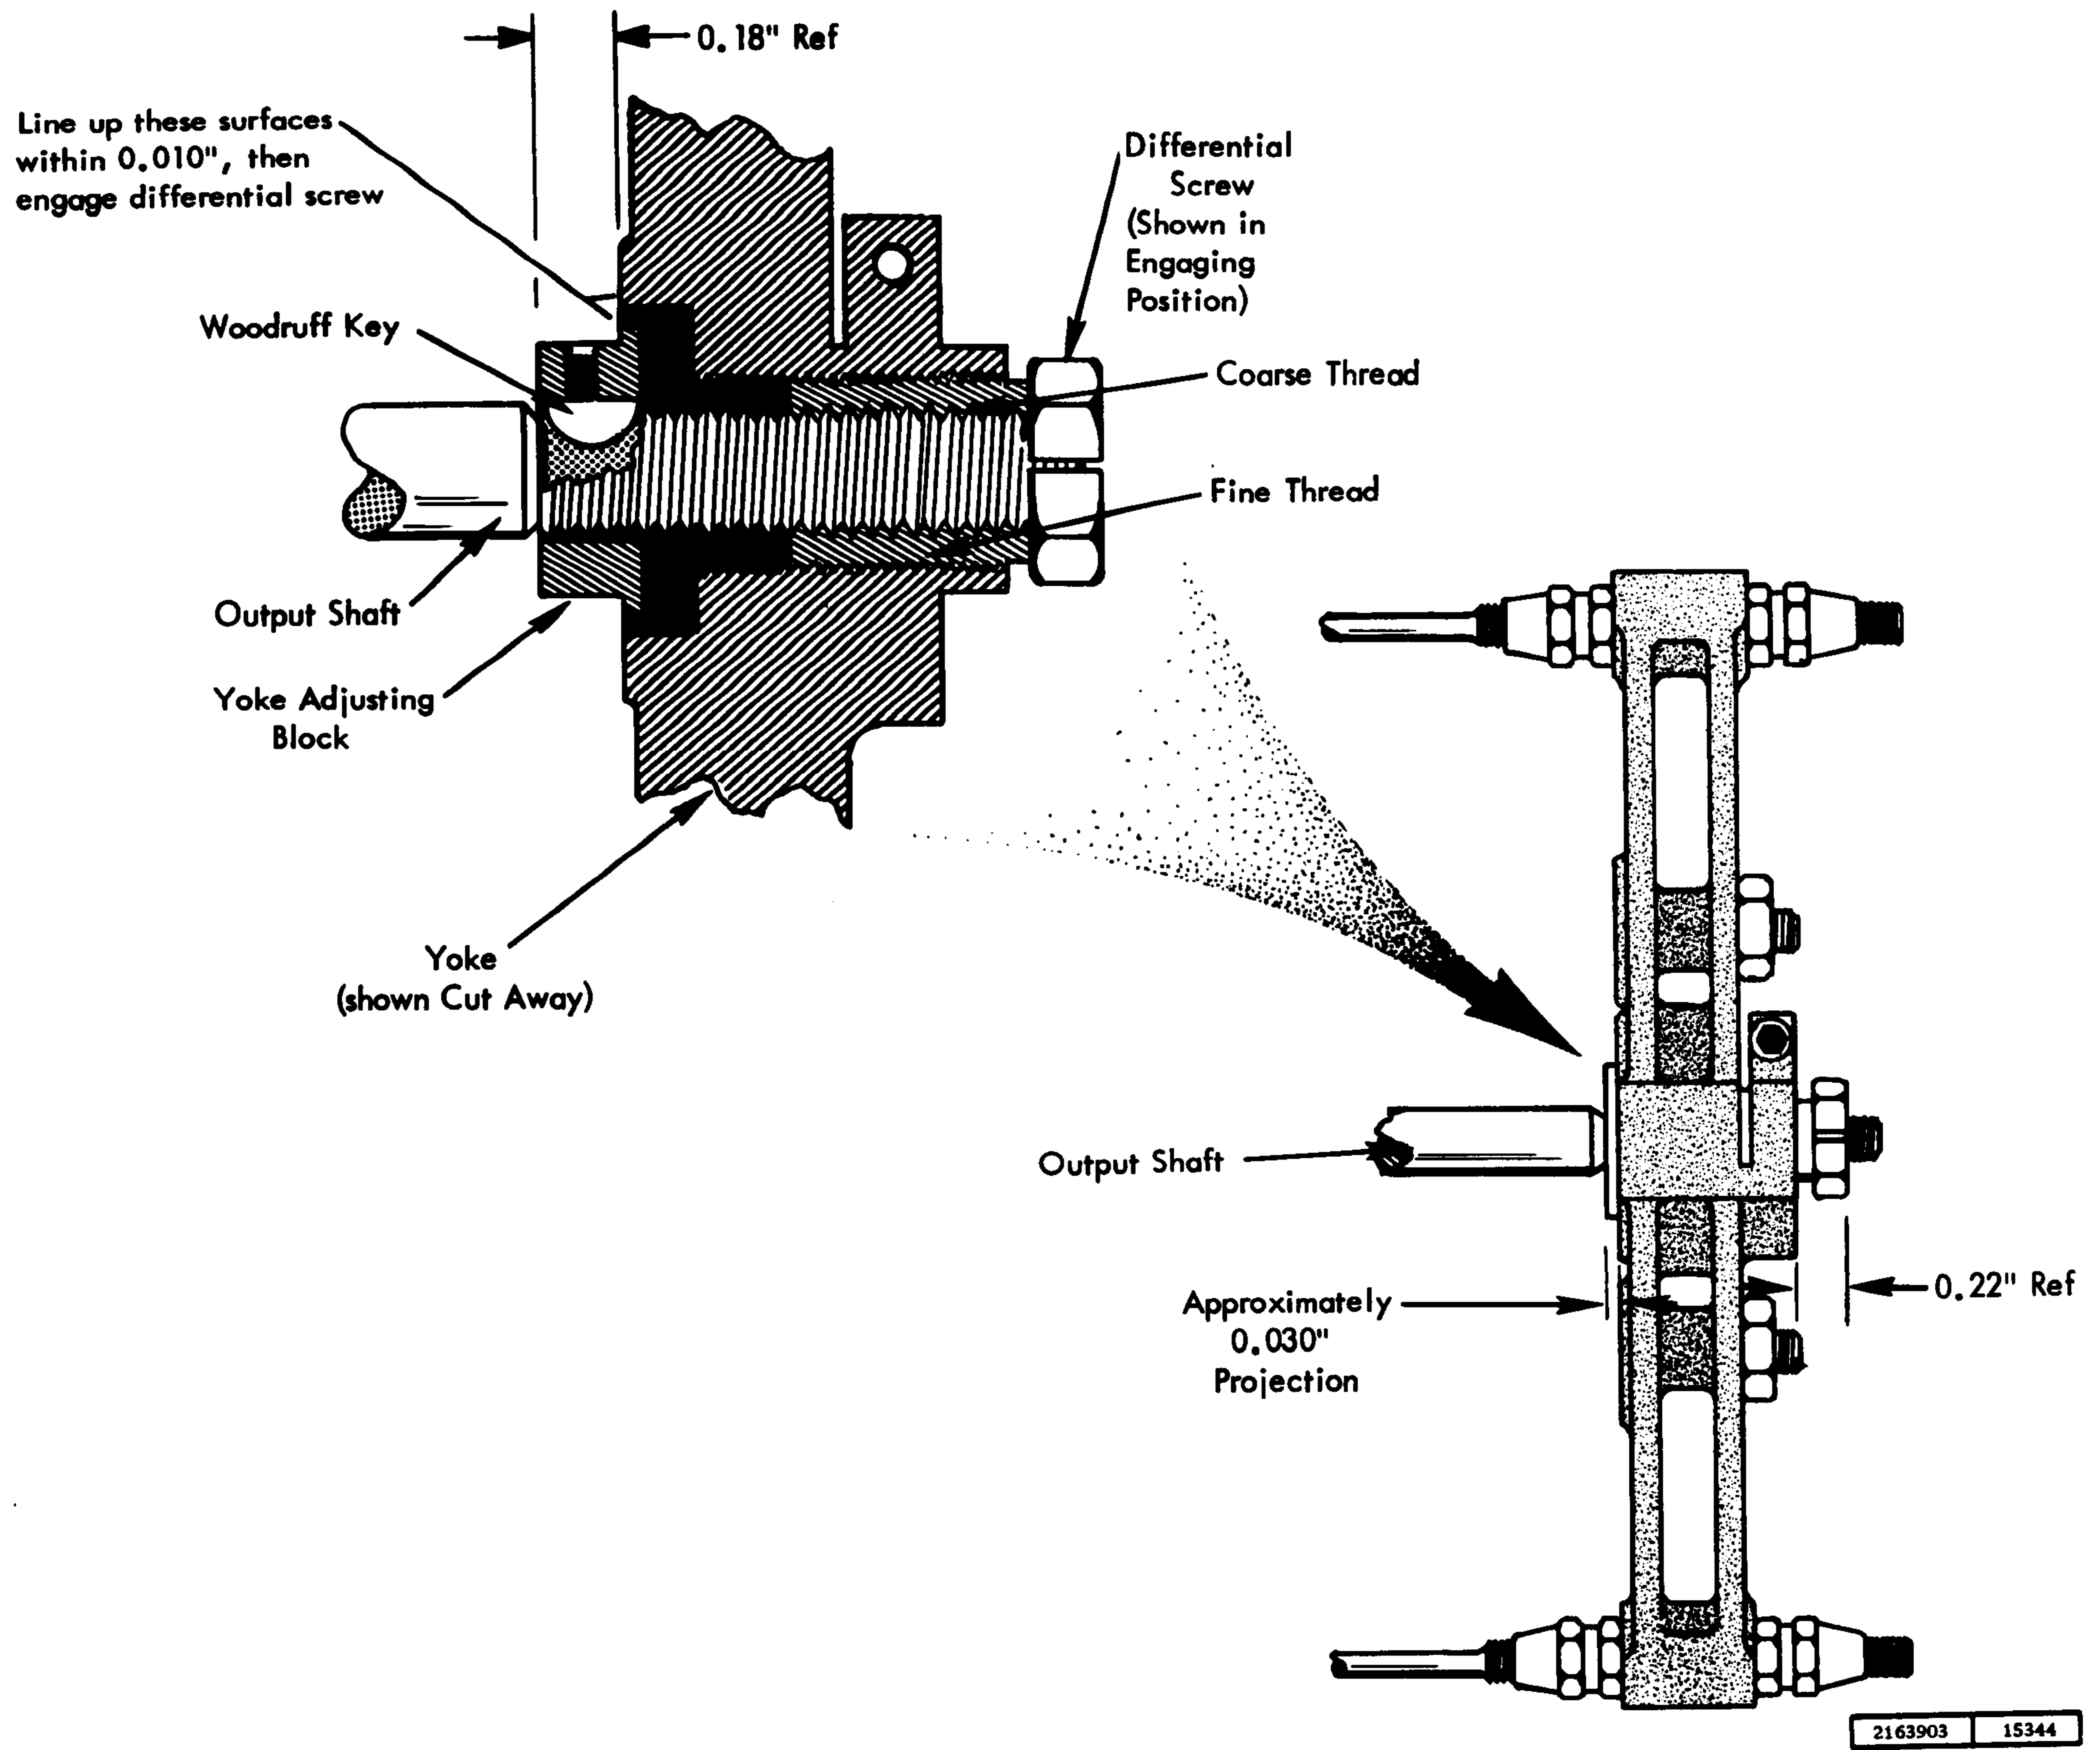

Figure 3-39 Yoke Adjustment
3.4.1.2 Yoke Assembly (Figure 3-39) (See NOTE under 3.4 HYDRAULIC ACTUATOR)
Replacement (Figure 3-39)